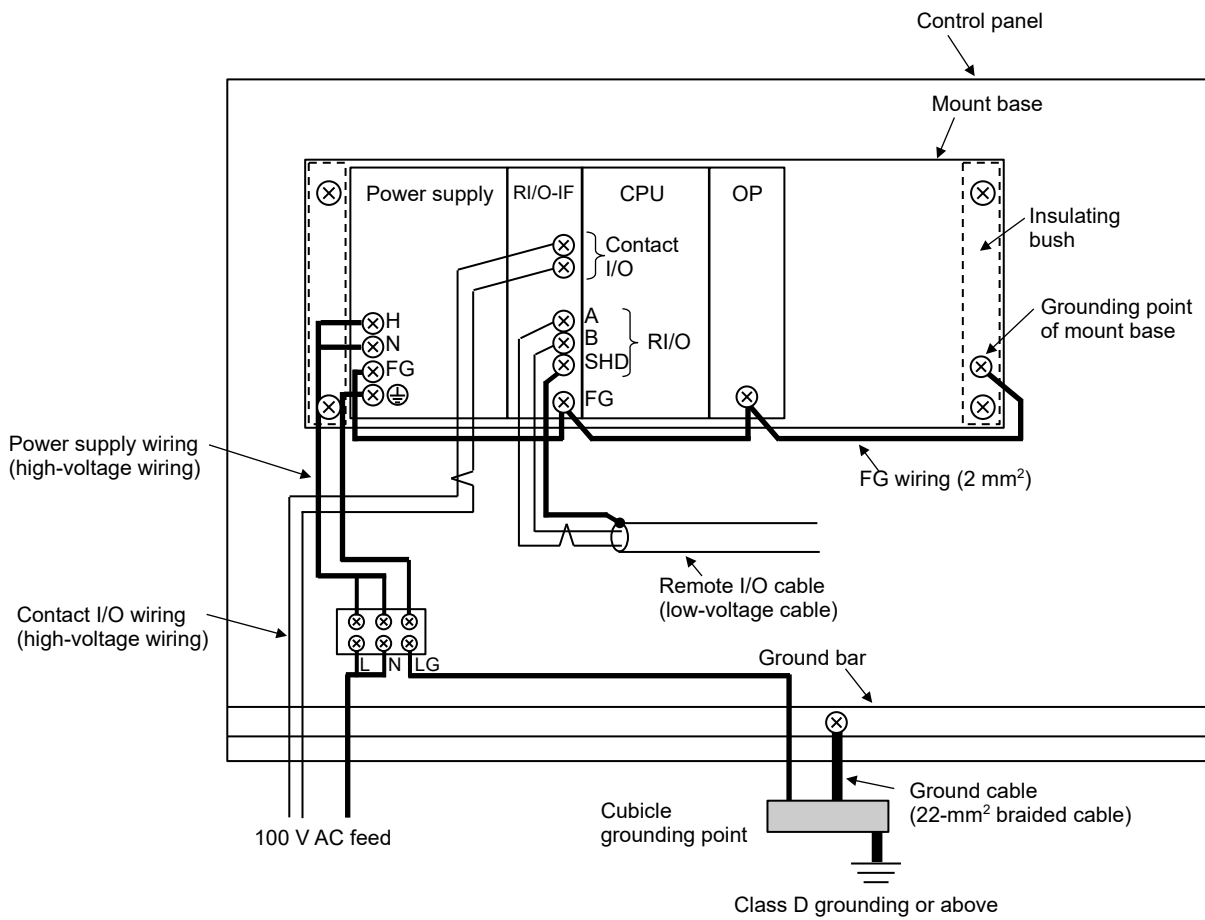

Figure 3-6 Example power supply module and ground wiring
- When performing wiring, keep high-voltage and low-voltage cables separate (see Figure 3-6).
Also, keep each grounding wire as short as possible (see Figure 3-6).